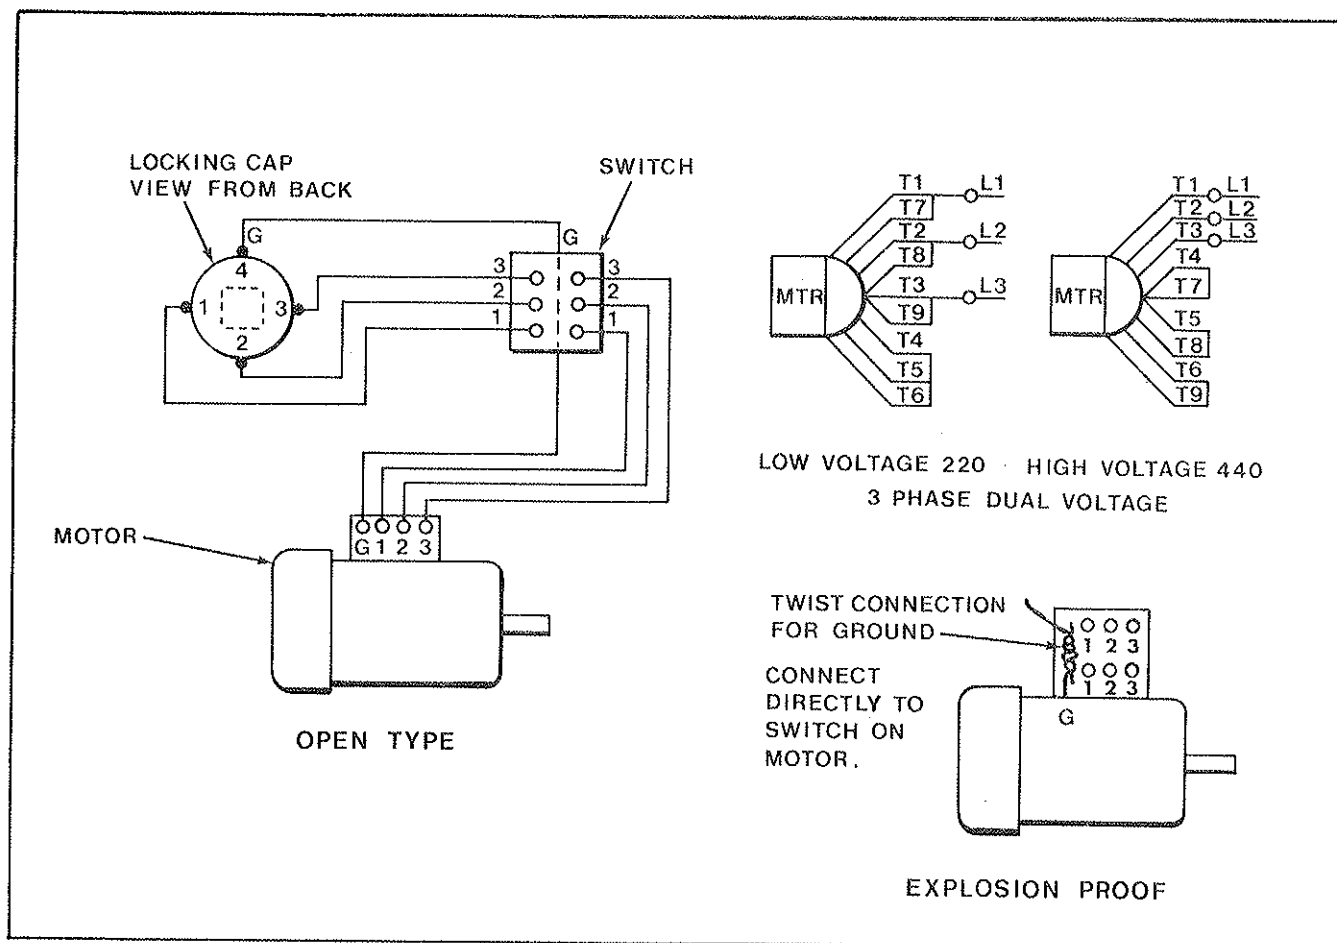

Figure 6. Wiring Diagram
C. Remove the junction box cover from the motor. Refer to figure 6, wiring diagram and disconnect leads and reconnect for 440 volt. Attach a tag to the unit indicating that it is to operate only on 440 volt.
G. The extension cord for Explosion Proof Motors is attached directly to the switch. See Wiring diagram, Fig. 6.
I. PHASE ROTATION. The motor direction of rotation is determined by the sequence of the phase connections. This unit leaves the factory properly wired for 220 current and a standard sequence. If power connections are not standard, it will be necessary to interchange any TWO of the three lead connections 1, 2 and 3 on the motor to obtain the corrective direction of rotation. Your power company can assist you in the determination of the phase sequence. See Fig. 6